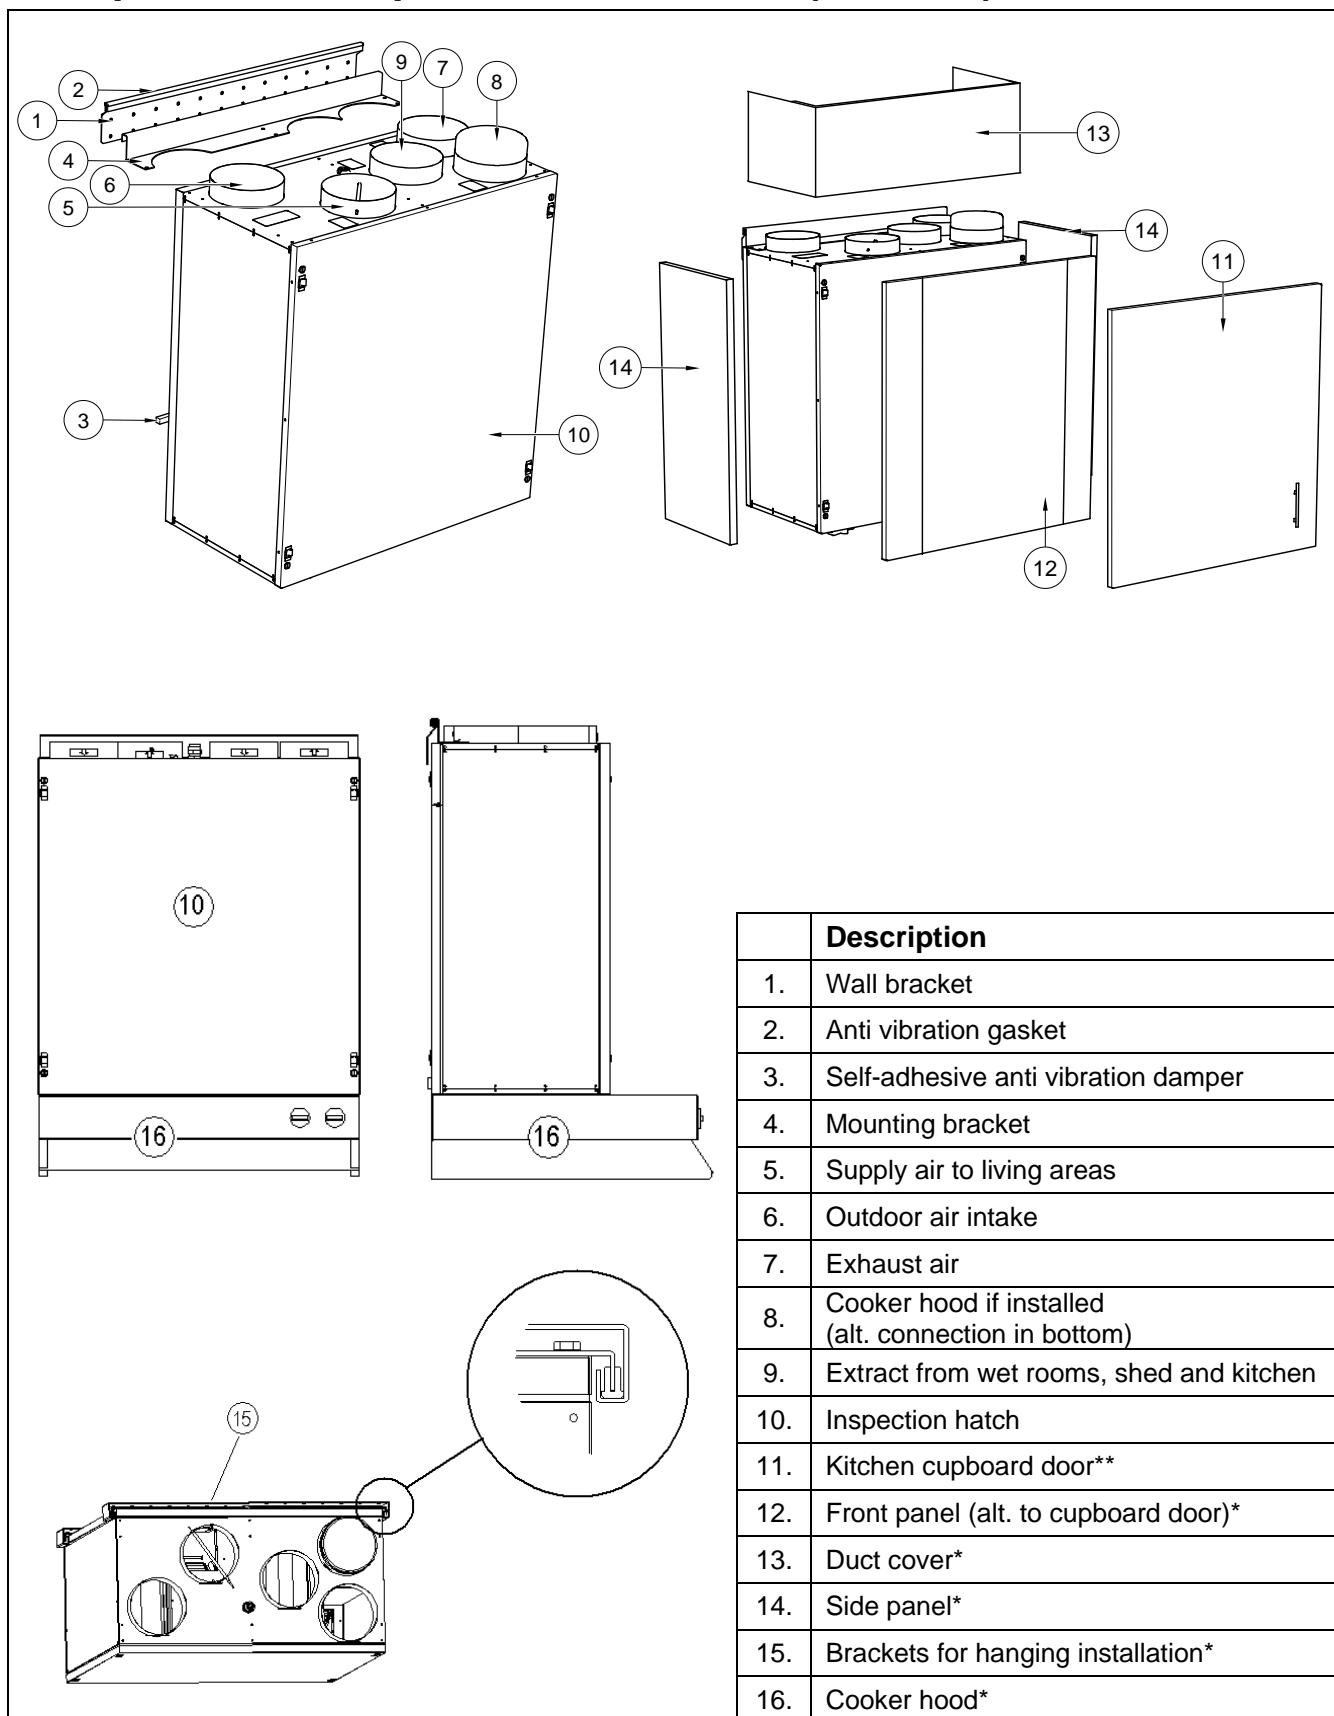

Fig. 3 *Accessory (not included)
- 2) If necessary the inspection hatches must be exchanged so that the hatch equipped with fixing clips for front door panel (pos.10, **fig.3**) becomes the unit front. The hatch with fixing clips has improved noise insulation, and this operation is therefore required even if front door panel is not to be mounted.
- 3) Install the mounting bracket (pos.4, **fig.3**) on top of the unit by means of provided screws and fix self-adhesive anti vibration seal (pos.3, **fig.3**) on the lower part of the unit's back side.
- 4) Install the wall bracket (pos.1, **fig.3**) with anti vibration pad. Bottom side of bracket should be 40mm below top of unit position, alternatively 590mm from the bottom position. Check that the anti vibration seal (pos.2, **fig.3**) is undamaged.
The unit should preferably be installed in a separate room (e.g. storeroom, laundry room or similar). Duct from cooker hood can be connected to bypass duct (pos.7 **fig.3**) in top or bottom of the unit. As an alternative, a cooker hood can be connected directly under the unit. The unit is designed for installation on the wall, but can also be installed horizontally, i.e. hanging (separate instructions enclosed with brackets for hanging installation) or lying. If installed lying, remember to mount necessary anti vibration pads under the unit. The unit is equipped with large inspection hatches on both sides, and is laterally reversible for flexible and simple connection to duct system.
When the unit is installed over the cooker, a kitchen cupboard door (pos.11, **fig.3**) can be mounted to cover the unit front, by means of the provided clip-in receptacle and stud (re. installation instructions on mounting template).
White painted or Stainless, insulated front cover (alternative to kitchen cupboard door) (pos.12, **fig.3**), white side panels (where unit side is visible) (pos.14, **fig.3**) and white painted duct cover (pos.13, **fig.3**) between ceiling and unit (H=295mm) can be supplied as additional equipment.
- If the VR 300 ECV/B is not connected to a cooker hood, the connector (pos.7, fig. 3) on the unit must remain plugged
In the VR 300 ECV/B the extract air from the cooker is led directly to the extract fan, bypassing the heat exchanger. In order to obtain heat recovery from the basic ventilation, the extract valve in the kitchen must be connected to pos.9, **fig.3.** together with extract from the wet rooms.